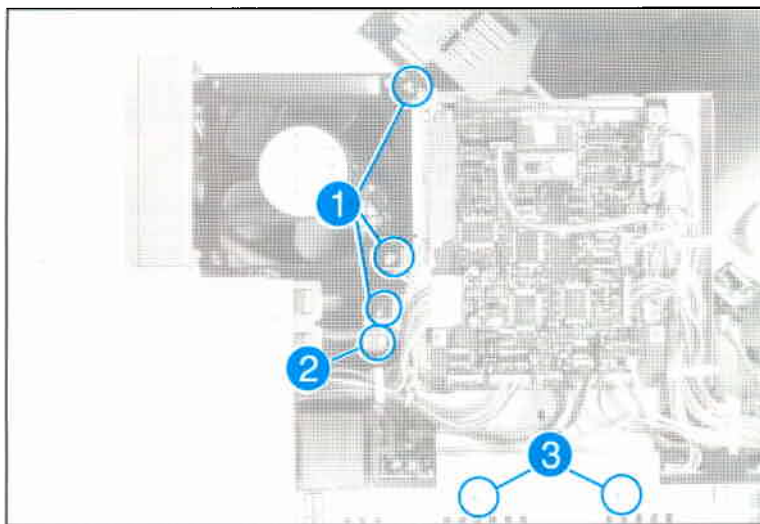

Figure 6-17 Main Fan and Control Board Removal
3. Disconnect the Control Panel cable from the Control Board and remove the M3X6 panhead screw which holds the cable to the printer frame as shown in Figure 6-17, item 2.
4. Remove the (3) (2 M3X8 and 1 M3X12) screws from the side of the fan facing the right side of the printer as shown in Figure 6-17, item 1.
6. Release the fan from (2) detents between the front side screws.
3. Remove (3) (2 M3X8 and 1 M3X12) screws which hold the Control Board to the Main Body Fan (see Figure 6-17, item 1).
4. Remove (1) M3X6 Panhead screw which holds the Control Panel cable as shown in Figure 6-17, item 2.
5. Remove (2) M3X6 screws that hold the Control Board to the printer frame (See Figure 6-17, item 3).